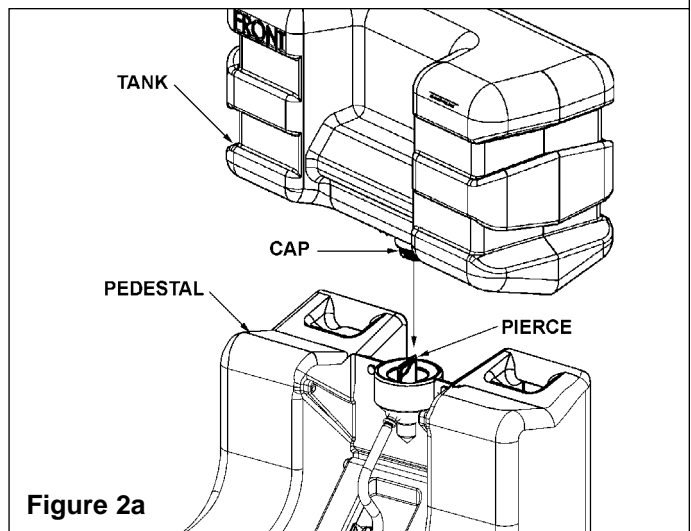

Figure 2a
5. Invert the tank and place it on top of the pedestal as shown in Figure 2a. The pierce on the pedestal will puncture a hole in the tank cap liner and allow the solution to flow.